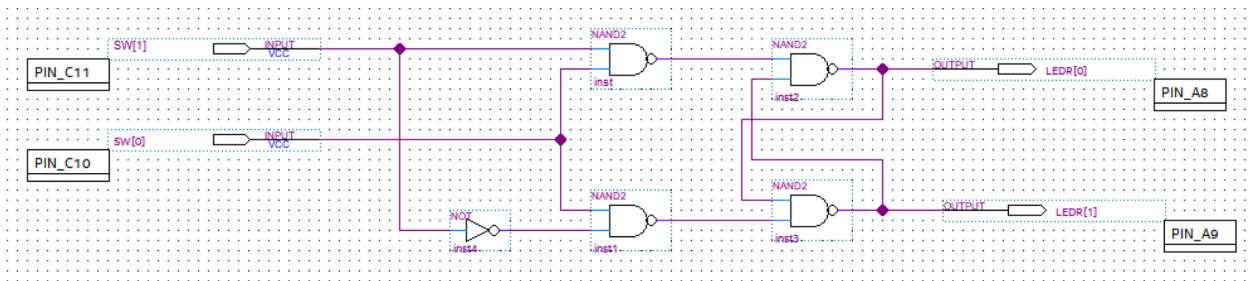

Figure 2: Gated D Latch Circuit
- Analyze the provided schematic and compile the circuit in Quartus as seen in *Figure 2*.